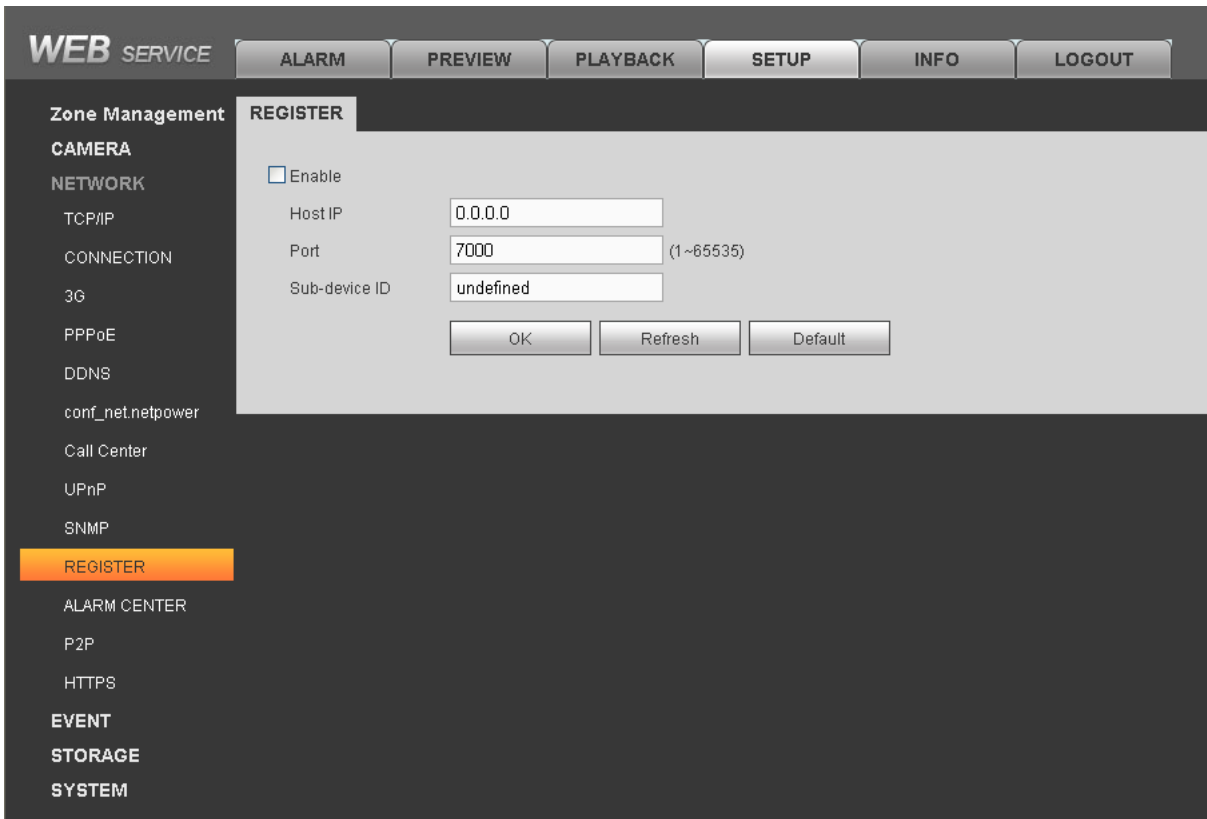

Figure 4- 20
Step 1. Select SETUP>Network>Register. See Figure 4- 20.